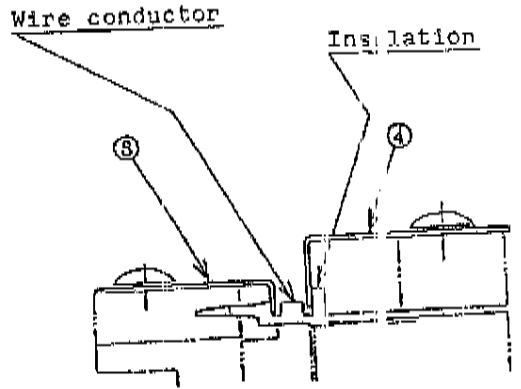
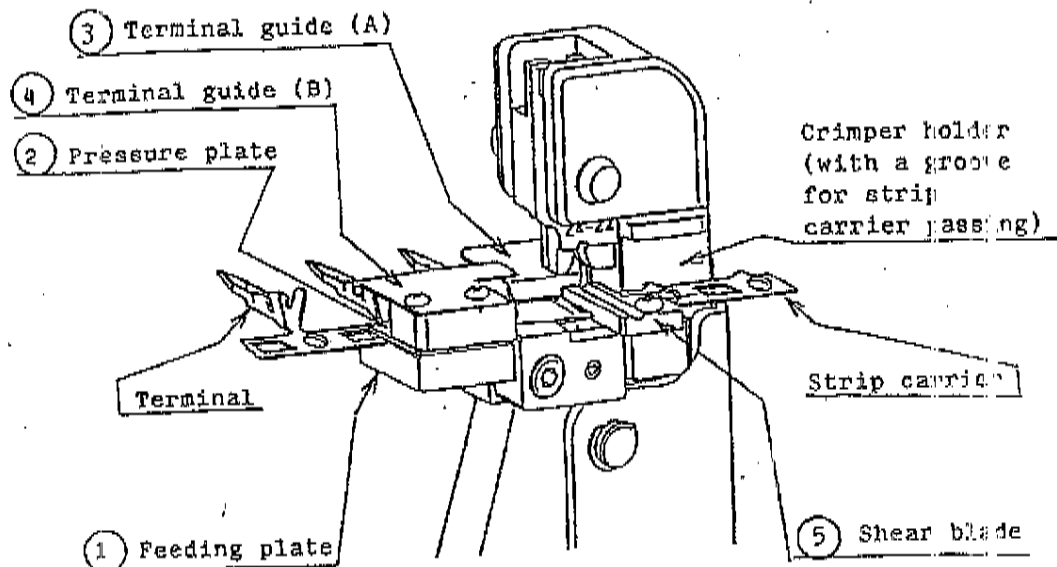

Fig. 5
Fig. 6
- (1) Squeeze handles until ratchet releases and handles open.
- (2) Make sure of the applicable wire range which is stamped on the crimper, so that the crimper is installed correctly in the main unit.
- (3) Insert the strip carrier of terminals between the ① feeding plate and ② pressure plate. Position a terminal to be held under the ③ terminal guide (A) and ④ terminal guide (B) per Fig. 5. Feed terminals until the first terminal is aligned with the crimper and the crimper anvil. (See Fig. 6.)
- (4) Squeeze handles gently until the terminal is held by the crimper and the crimper anvil. At this time, do not crimp(deform) the terminal. Now insert a wire into the terminal until the wire is stopped by the ③ terminal guide (A).
- (5) Squeeze handles completely, holding the wire to keep it in place, until ratchet releases and handles open.
- (6) Remove the crimped terminal and check if the wire is crimped correctly.